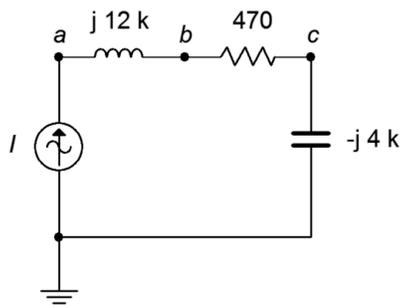

Figure 2.33
51. For the circuit of Figure 2.33,  $v_{ac}$ ,  $v_b$  and  $v_c$ . The source is 5 mA peak at 8 kHz.